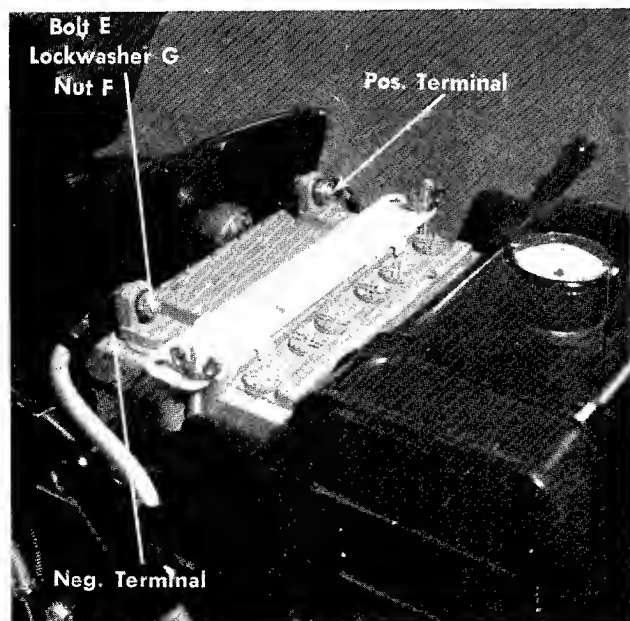

FIGURE 6.
Step 4. Attach the positive cable (from the starter solenoid) and the small wire (from the ammeter) to the positive battery terminal with the bolt "E", lockwasher "G" and nut "F" in the assembly pack. (See figure 6.)